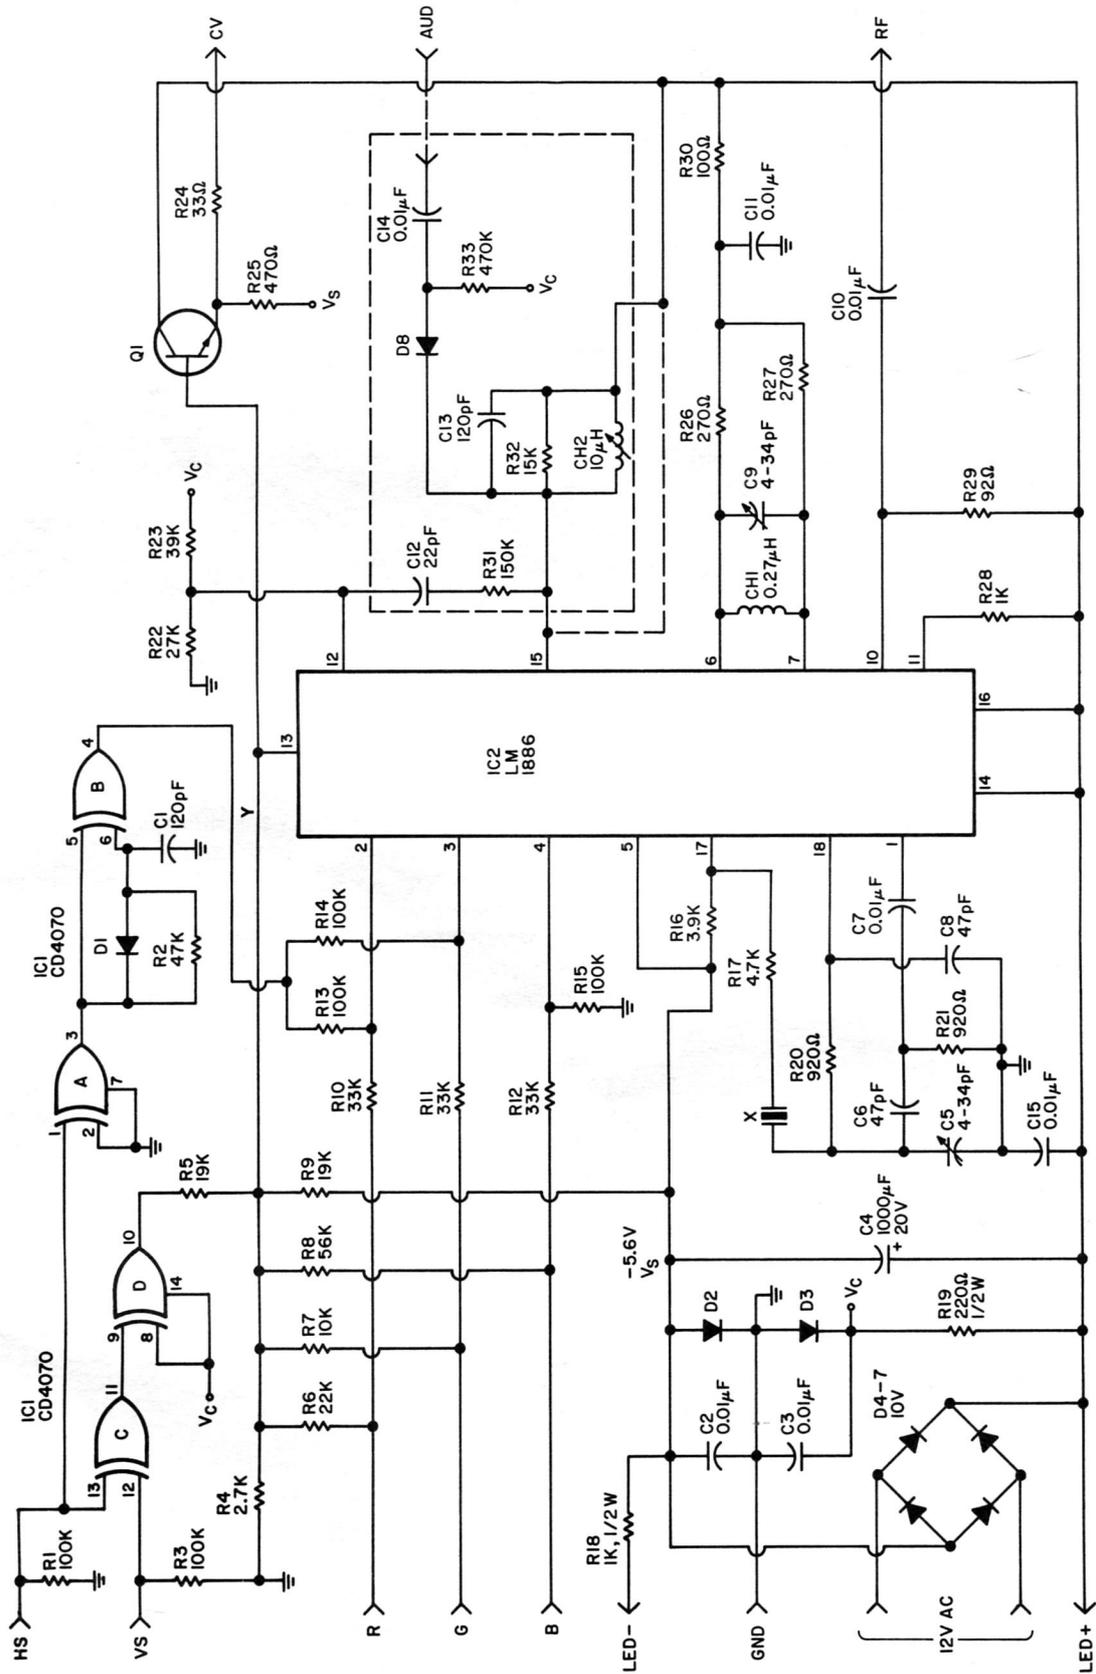

FIGURE 1: This circuit converts RGB output to a composite signal and provides an RF signal suitable for reception by a color TV.
I have designed an RGB modulator circuit that will convert RGB output to a composite signal and also provide an RF signal suitable for reception by a color TV set (*Fig. 1*). Although some of the crispness possible with an RGB monitor is lost in the conversion process (*Fig. 2*), the circuit does allow you to get up and running with moderate-resolution color applications without a large investment. With a moderately full junk box, you can build this interface for less than \$20. All new parts cost less than \$50, only slightly more than the cable needed to connect the computer to a monitor.
The RGB modulator circuit shown in *Fig. 1* is based on National Semiconductor's LM1886 TV video modulator IC. This chip is designed to convert color signals into standard TV signals on Channel 2, 3 or 4. Because the LM1886 is not normally operated directly from RGB signals, this circuit differs quite a bit from those in National's literature.
*Figure 1* sums the RGB signals via 22k, 10k and 56k resistors to form the Y signal, which is applied to pin 13 of the LM1886. Sections C and D of the CD4070 combine the vertical sync (VS) and horizontal sync (HS) into a composite sync signal, which is added to Y through one 19k resistor. Another 19k resistor biases Y negative so that black (R = G = B = 0) corresponds to ground and the sync level is -0.6V. The sync signals must be active low transistor-transistor logic (TTL) levels. The RGB signals are 0 to 5V, but they may be analog. The 2.7k resistor to ground sets the Y signal level to match the level of the color subcarrier modulator inside the LM1886.
—	12V AC, 250mA transformer with plug (not shown in Fig. 1)
The components within the dotted lines in Fig. 1 represent a sound subcarrier circuit. Tune the tank connected between pin 15 and the 10V supply to 4.5MHz. Tuning D8 frequency-modulates this oscillator and gives full deviation for about a 1V input when biased between the 10V and 5.6V supplies by the 470k resistor. The signal is applied to the Y reference through the 150k resistor and 22pF capacitor. If you require a sound carrier on the CV output, connect pin 15 to pin 13 through a 15k resistor and a 22pF capacitor. If you do not use a sound subcarrier, connect pin 15 directly to the 10V supply. The sound carrier can introduce a moire pattern effect due to beating between the sound and video signals. For best performance, the sound carrier should be omitted.